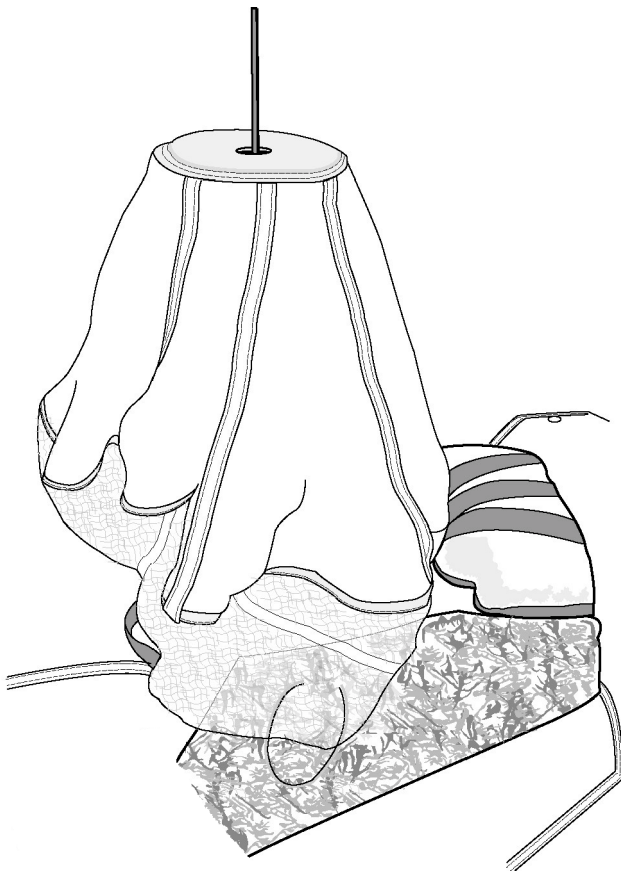

Figure 27. Compressing Pilot Parachute
- a. Insert long bodkin through grommet on pilot chute crown. Ensure that material is not trapped by bodkin (Figure 27).